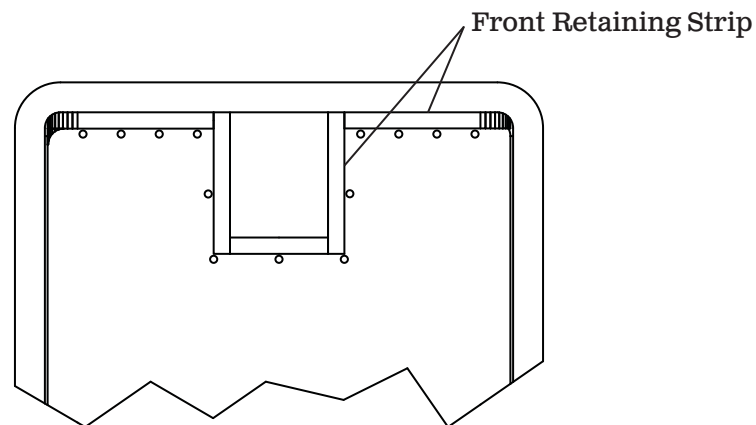

Figure 22
- 1) See **Figure 22 & 23**. Cut 3/16" x 3" (76.2 mm) wide flat-stock to fit along the floor around the bulkhead/doghouse on top of the liner. Use same material as body/trailer material.